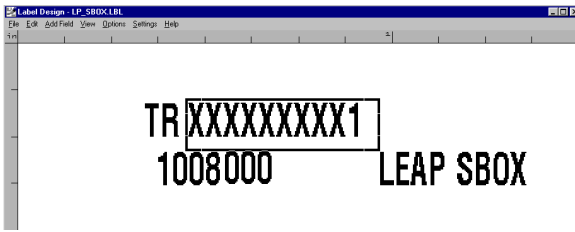
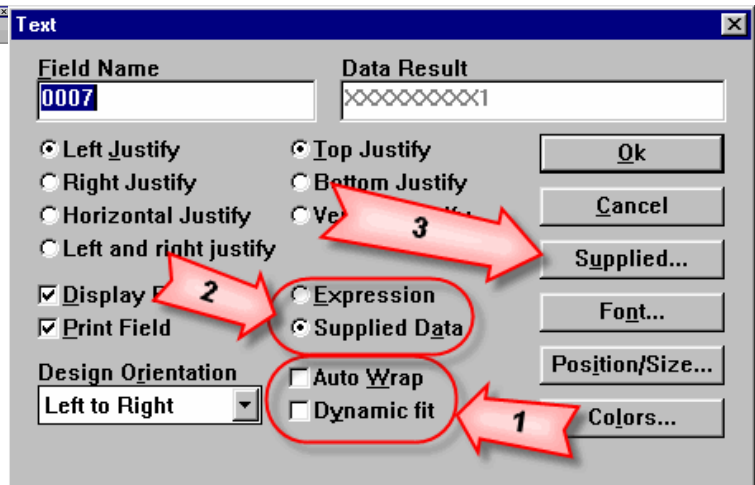

Figure 1-21a
Figure 1-21b
1.27. Double-click on the field to the right of Field 0002. (Figure 1-21a) This opens the properties dialog box for *Field 0007*. (Figure 1-21b)
1.28. Check the status of the *Auto Wrap*, *Dynamic fit* check boxes for valid configurations, (Figure 1-21b Arrow 1).